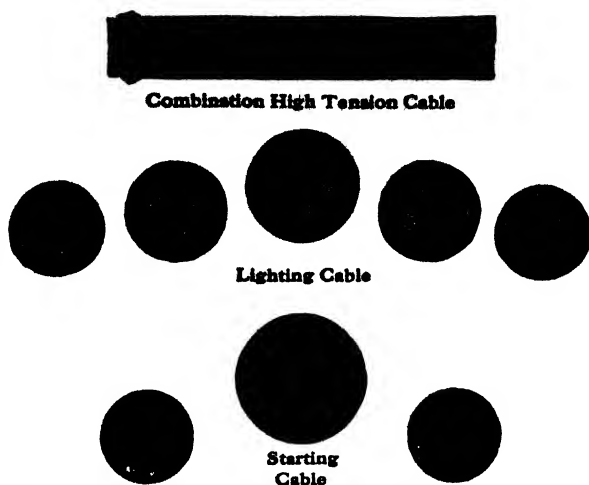

Fig. 32. Types of Cables Employed in Electrical Equipment of Automobiles
**Wiring.** *Necessity for High-Tension Cables.* In early days much trouble was experienced with poorly insulated and poorly mounted wires. This was particularly the case with the secondary circuits, the insulation of which was frequently inadequate to carry currents at the high potentials employed, so that there was more or less leakage. This was further aggravated by the chafing, or rubbing, of these wires against moving parts. The former trouble was eliminated by the adoption of specially constructed cables which are tested to carry 30,000 volts. Cables of this type are illustrated in Fig. 32, which also shows the cables employed for electric lighting and starting installations, where the chief difficulty has usually been the selection of a cable of too small a carrying capacity for the current used.